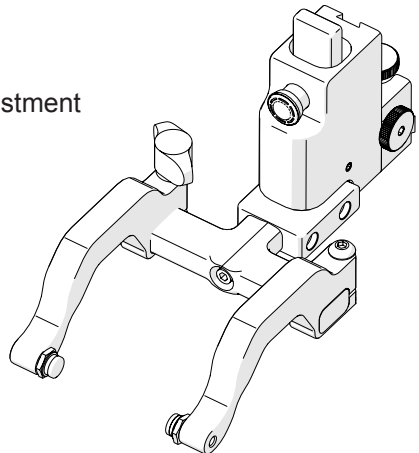

Fig. 134 - 90° probe holder positioning
19. Orient the yoke to the front of the probe holder and screw the yoke into the threaded hole provided (Fig. 134).